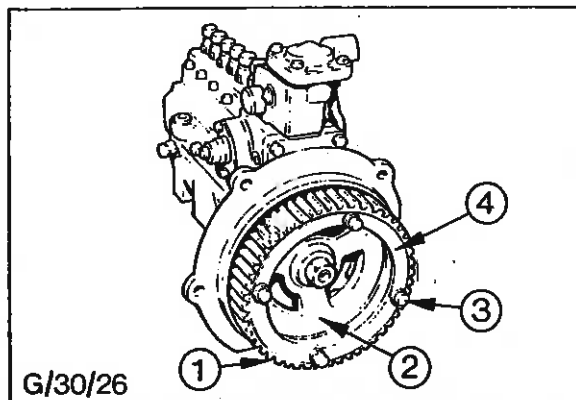

Fig. 31 - Injection Pump Drive Gear - Automotive and G.P. Governed Pumps Only
If the pump has automotive or G.P. governing and is to be renewed, remove the four outer socket headed screws from the pump driving gear and retain the gear ring, plate and screws for fitting to the new pump - see Fig. 31. Examine for satisfactory condition and renew parts as necessary.
2. If a new pump with automotive or G.P. governing is being installed, fit the ring gear and plate in position, but do not fully tighten the screws (Fig. 31). Drain any oil from the fuel gallery of the new pump.